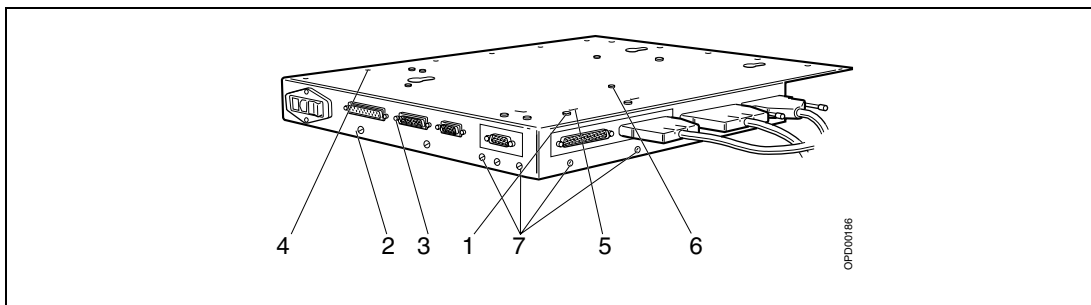

Fig. 5 Removal of cover
1. Remove the 13 screws (4/Fig. 5) on the back side of the biopsy controller.
2. Remove the seven countersunk screws (2/Fig. 5) on the sides of the biopsy controller.
1. Remove the screws (3/Fig. 5) holding the connectors X201, X202, X206, X207, X208.
2. Loosen the four screws (1/Fig. 5) on the back side of the biopsy controller.
3. Loosen the four screws (7/Fig. 5) on the side of the biopsy controller.
4. Remove the screws (6/Fig. 5) holding the board.
When installing the board, pry the board holders carefully in position by using a screwdriver at the slots (5/Fig. 5) on the back side of the biopsy controller.